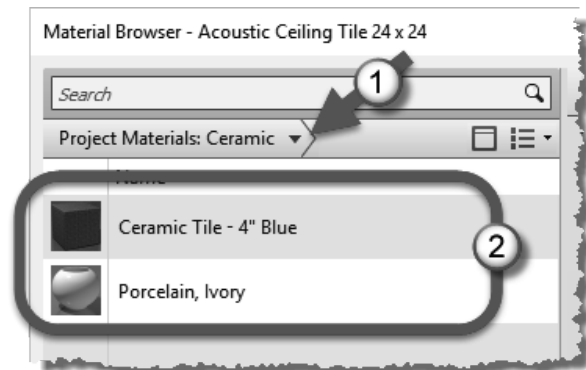

FIGURE 4-4.1 Filter materials by class
2. Filter the material list by **Class** **Ceramic**; click the down arrow as shown in Figure 4-4.1.